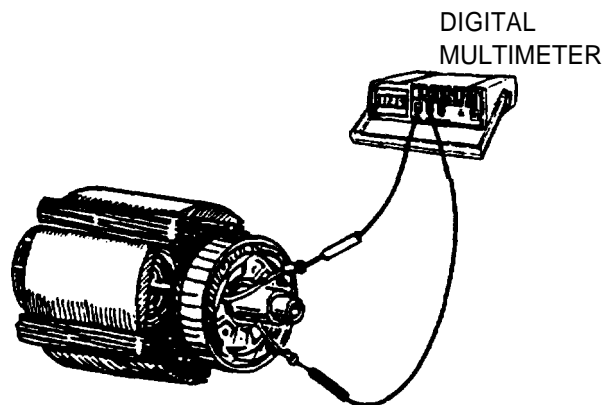

Figure 4-21. Testing Rotor for Grounds
- h. Connect multimeter leads between F1 + and rotor shaft and between F2- and rotor shaft in turn (Figure 4-21). Multimeter should not register,